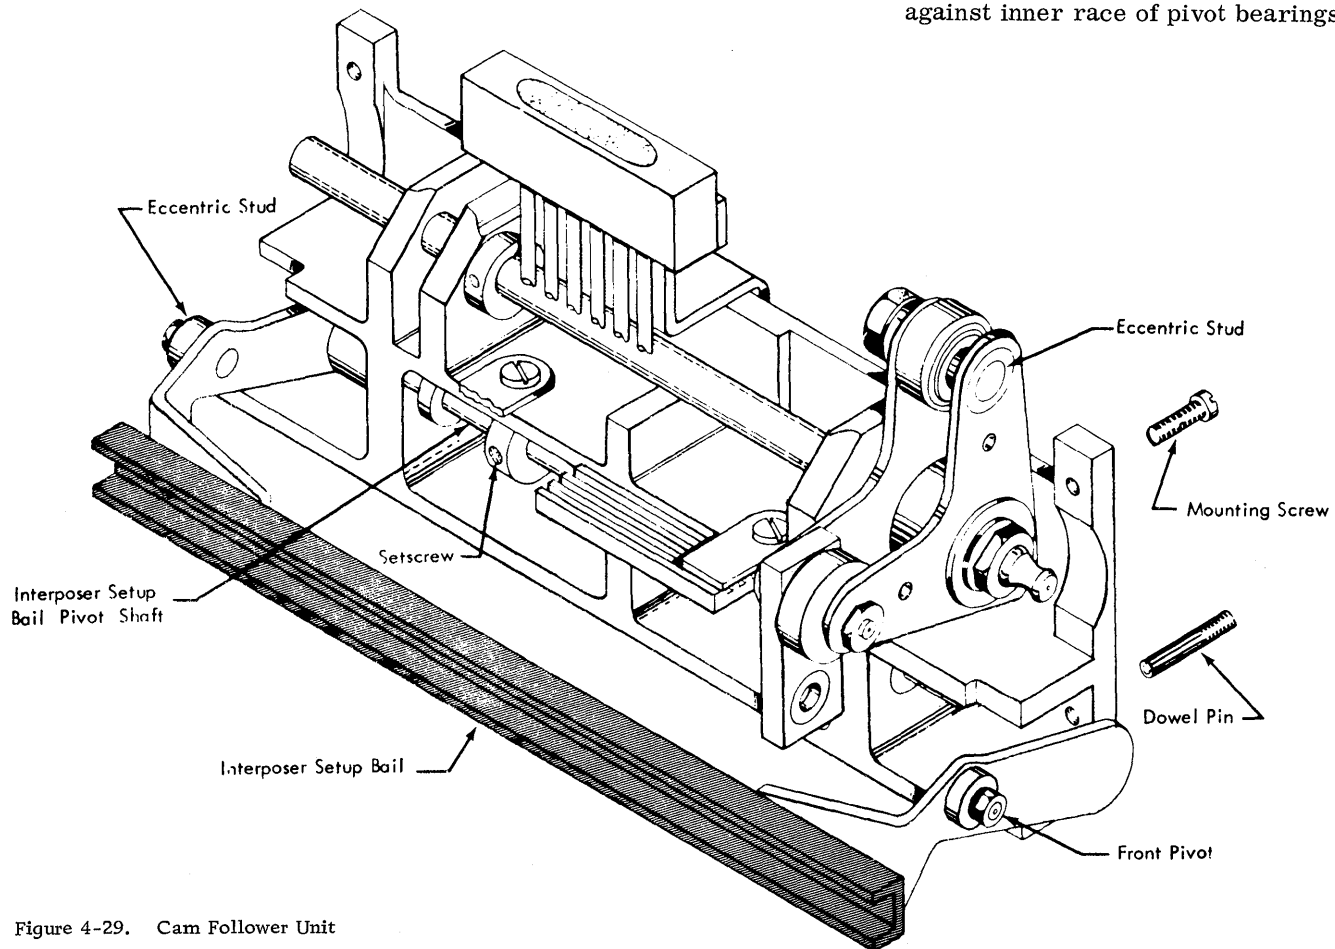

Figure 4-29. Cam Follower Unit
1. With a .002" feeler gage placed between the cam followers and their respective cams, adjust the roller eccentrics so that a light to moderate drag (1-1/2 lb to 3 lb as specified in a, b, and c following) is experienced (Figure 4-29). This light to moderate drag should occur only at the tightest point as the cam is rotated through 360°. This applies to the following cam followers: